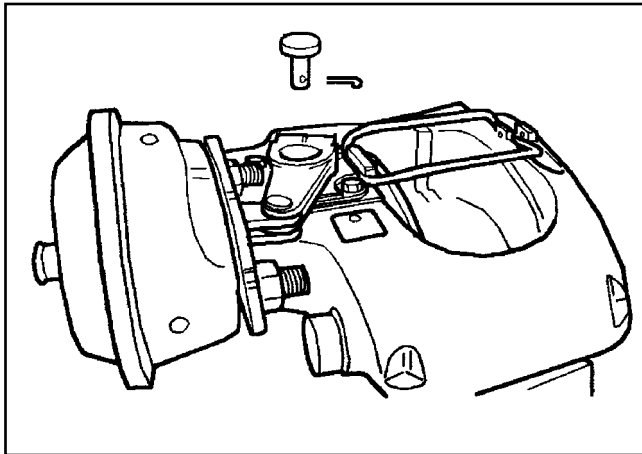

FIG. 3
1. Remove the R clip and clevis pin from the actuator clevis and lever. (See Figure 3)